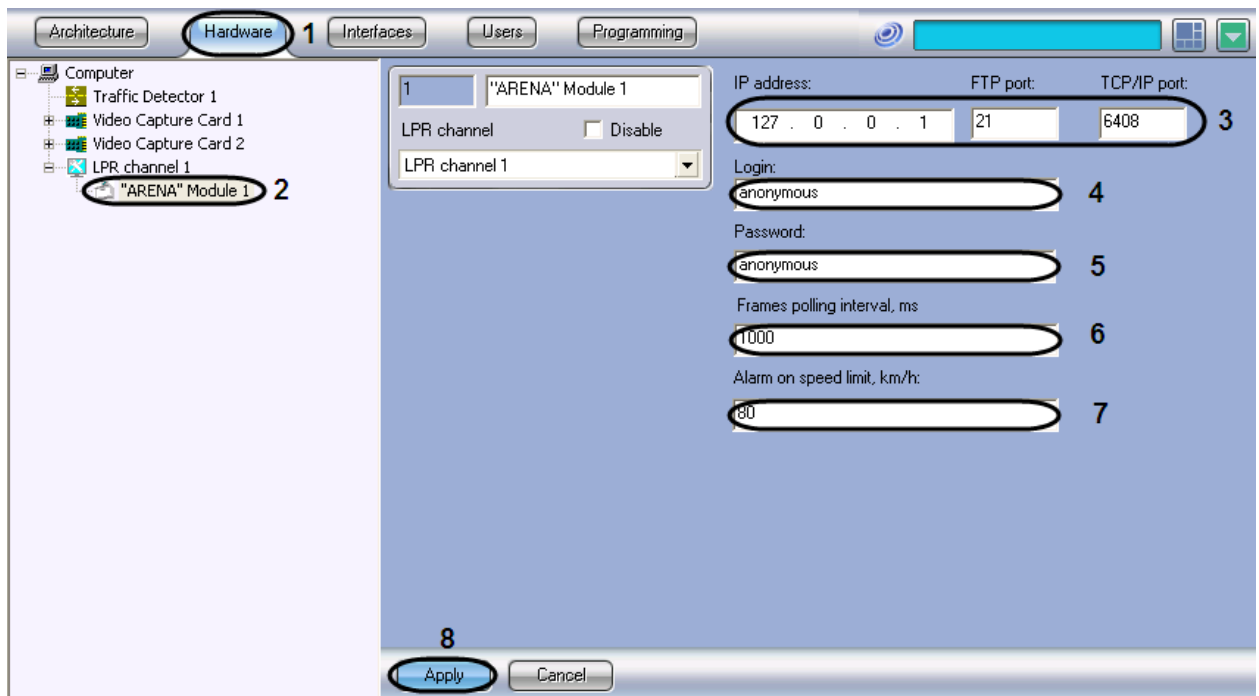

Fig. 7.2—2 Setting up the Arena module
1. Go to the Hardware tab in the system setting dialog window (Fig. 7.2—2, 1).
2. Select the Arena object, corresponding to the set up Arena program module on the Hardware tab (Fig. 7.2—2, 2). The settings panel of the selected object will open on the right side of the window.
3. In the «IP address» field enter the IP-address of the Arena computer with installed ftp-server (Fig. 7.2—2, 3).
4. In the «Port» field enter the port for connection to the ftp-server (Fig. 7.2—2, 3). Port 21 is used by default.
5. In the «Login» and «Password» fields enter the user name and password for connection to this ftp-server (Fig. 7.2—2, 4-5).